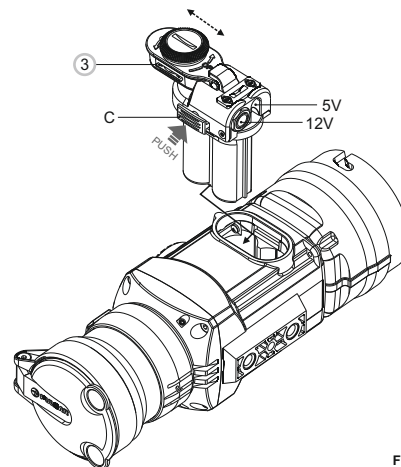

Fig. 3
- Install the external power adapter into the monocular's battery compartment (**see Fig. 3**) and press it firmly from above to make sure that the adapter's latches (C) have snapped on both sides.
- Secure the cover (6) on the adapter (**see Fig. 3**).
- Power the unit on with a short press of the "ON/OFF" (9) button.